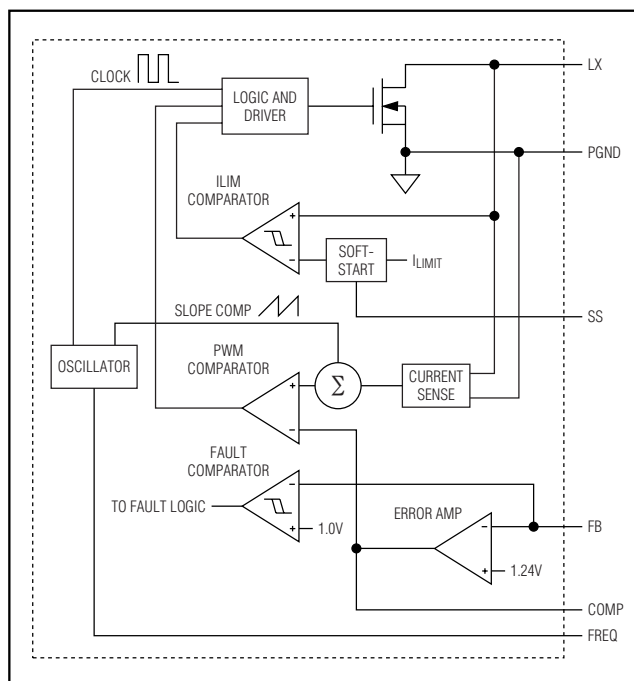

Figure 3. Step-Up Regulator Block Diagram
Figure 3 is the block diagram of the step-up regulator. The regulator controls the output voltage and the power delivered to the output by modulating the duty cycle (D) of the internal power MOSFET in each switching cycle. The duty cycle of the MOSFET is approximated by: